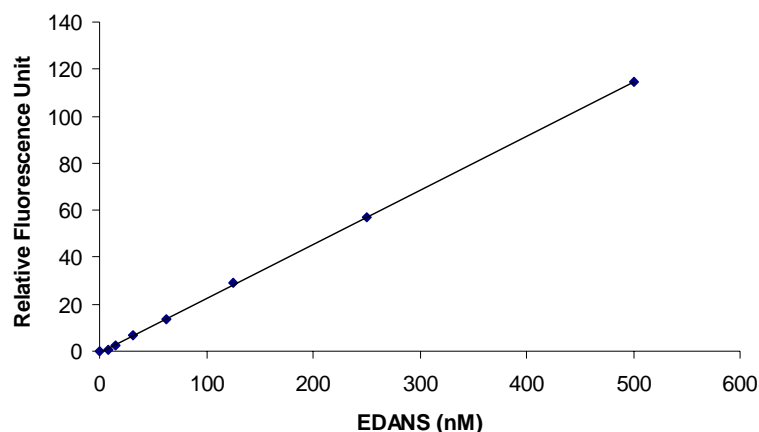

Figure 1. The EDANS reference standard calibration curve.
- Plot EDANS fluorescence reference standard as RFU (relative fluorescence unit) versus concentration as in **Figure 1**.